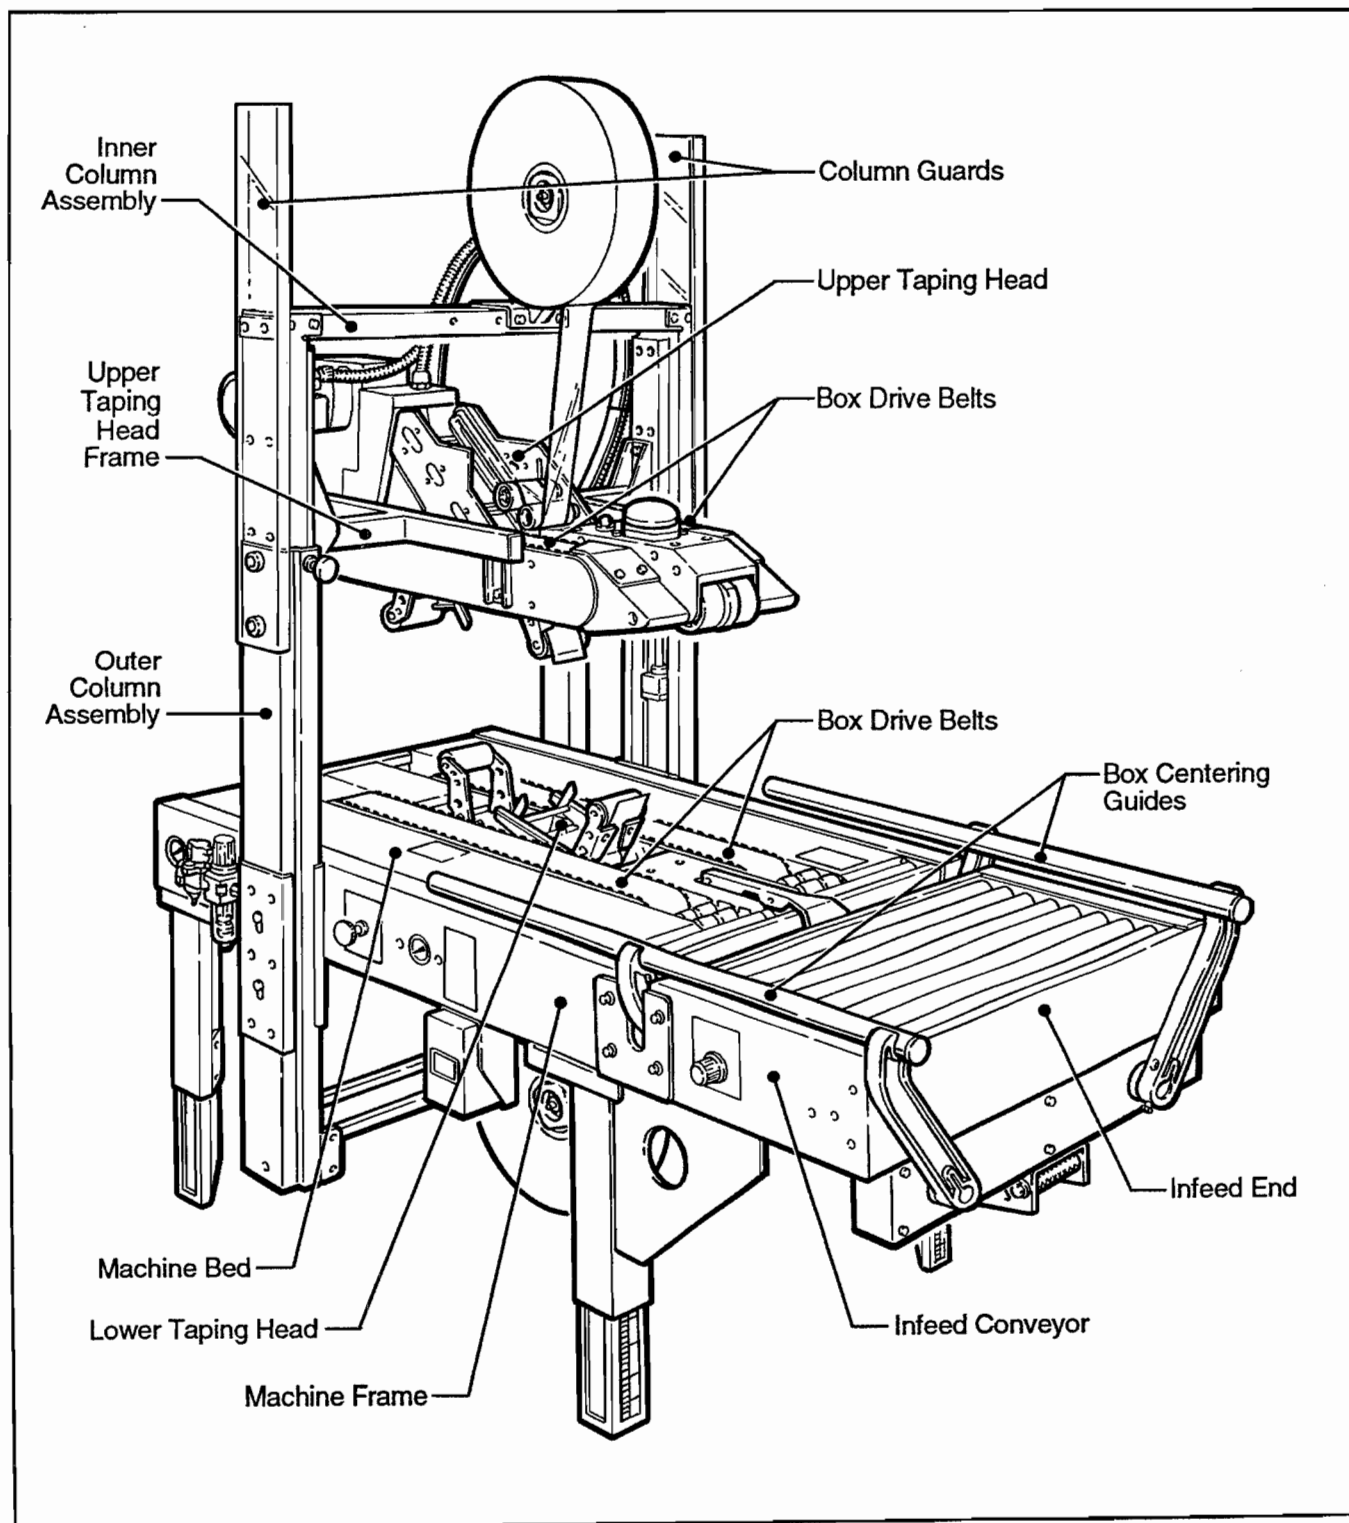
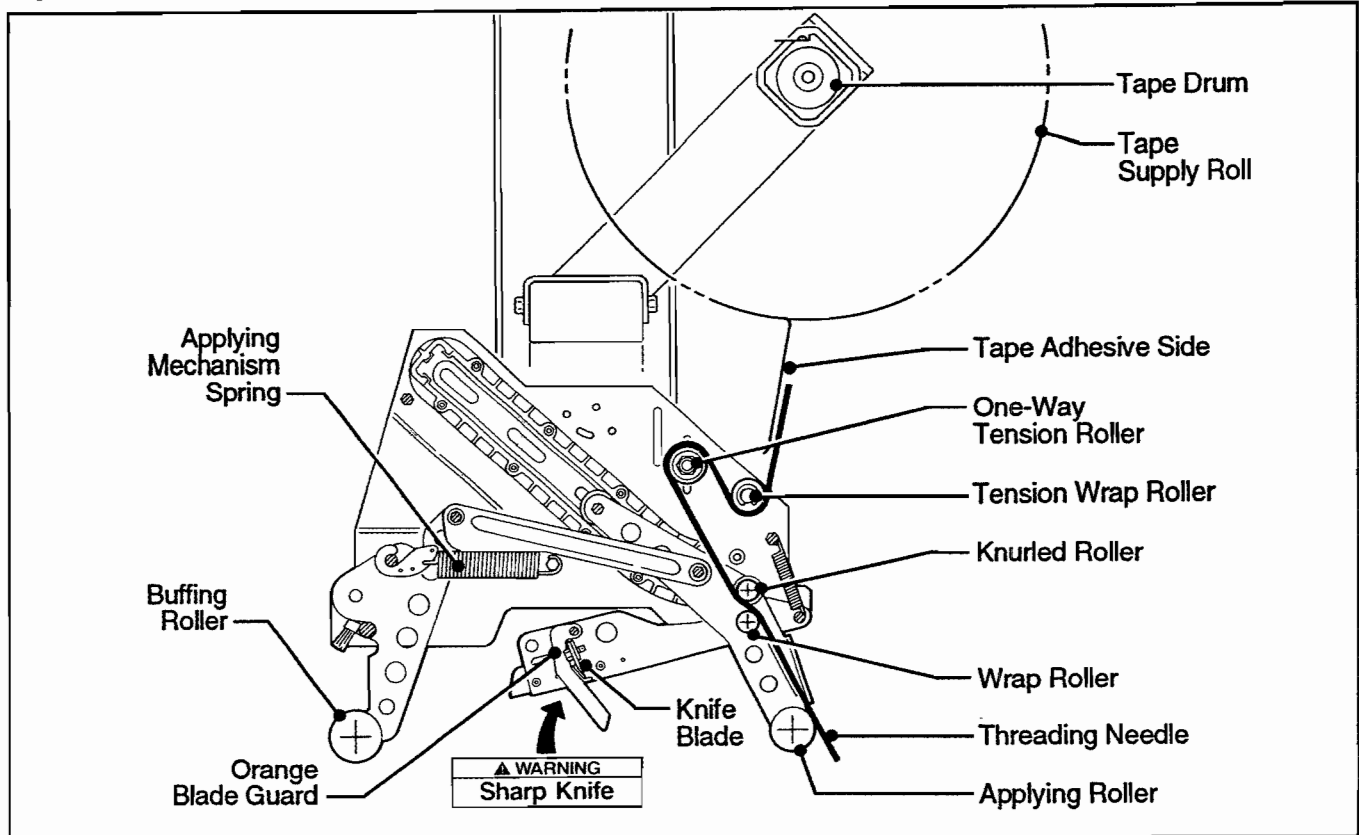

Figure 3-1 – Case Sealer Components
Figure 3-7 – Taping Head Components/Threading Diagram, Upper Head
The following instructions are presented in the order recommended for setting up and installing the case sealer. Following them step by step will result in an installation in your production line that best utilizes the many features built into the case sealer. Refer to Figure 3-1 and 3-2 to identify the various components of the machine.
The electrical control box, shown in Figure 3-1 contains the "On/Off" switch with pre-set breaker and can be located on either side of the machine frame for customer operating convenience. A standard three conductor power cord with plug is provided at the back of the electrical control box for 115 Volt, 60 Hz, 6.4 Amp electrical service. The receptacle providing this service shall be properly grounded. Before the power cord is plugged into 115 Volt, 60 Hz outlet, make sure the red "Off" button is depressed and that all packaging materials and tools are removed from the machine. **Do not plug electrical cord into outlet until ready to run machine.**
Refer to Figure 3-1 and 3-2 to acquaint yourself with the various components and controls of the 700rks case sealer. Also see Figures 3-7 and 3-8 for taping head components.
8. Both the upper and lower taping heads utilize extremely sharp knife blades. The blades are located under the orange blade guard which has the "WARNING – SHARP KNIFE" label. Before loading tape, refer to Figures 3-7 and 3-8 to identify the blade location. Keep hands out of these areas except as necessary to service the taping heads.
Refer to Figures 3-7 and 3-8 to identify the various components of the taping heads, especially the cut-off blade location.
2. Follow **Steps 1, 2 and 3** on page 24, and also refer to Figure 3-7.